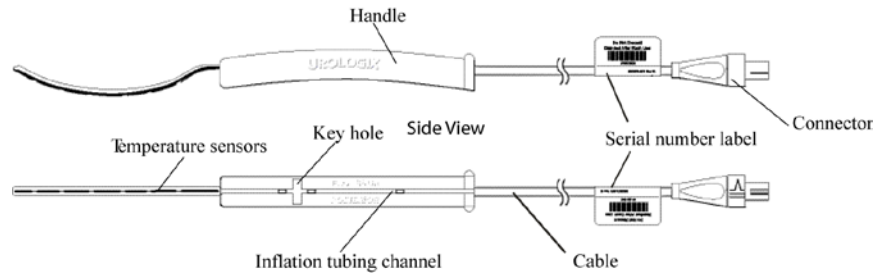

Figure 2-14. RTU Plus Reusable Handle
- 2). Open the package for the RTU Plus Reusable Handle, or obtain a disinfected RTU Plus Handle from a previous treatment (*Figure 2-14*). The RTU Plus Handle with the temperature sensors should not be used in more than 30 treatments.